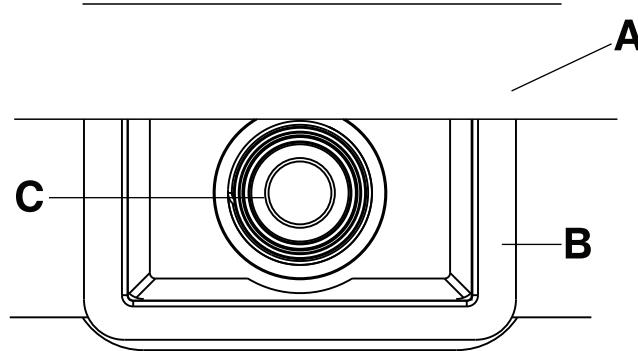
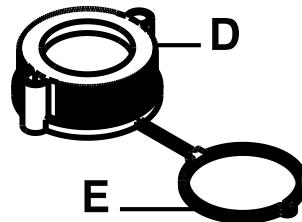

Figure 1-7: Air attachment box and body valve
Figure 1-8: Cap and tether
2. Grasp the body valve (C) and pull outward so the air attachment box (B) extends outside the support surface cover (A) (Figure 1-7 on page 1-22).
3. Push the tether (E) (Figure 1-8 on page 1-22) over the body valve (C) (Figure 1-7 on page 1-22). Turn the tether (E) in a clockwise motion until it is past the threads on the body valve (C).
4. Make sure that the cap (D) (Figure 1-8 on page 1-22) threads onto the body valve (C) (Figure 1-7 on page 1-22).
5. Push the air attachment box (B) back inside the support surface.